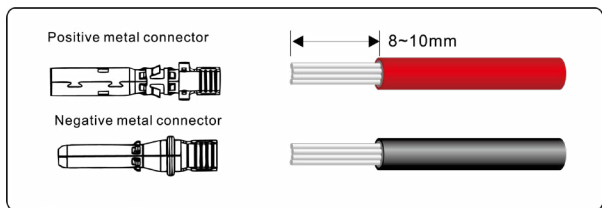

Figure 5.12 Removing insulation layer for DC cable (unit: mm)
Step 3 Insert the crimped positive and negative power cables into the corresponding positive and negative connectors until a “click” sound is heard, as shown in **Figure 5.12**.